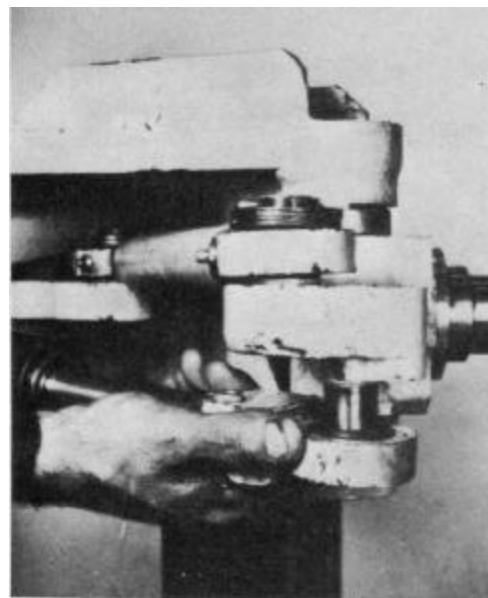

Figure 5-80
4. Remove the cotter pin and flat washer from the bottom spindle cylinder mounting pin (Fig. 5-80).
5. Remove the power steer cylinder rod end from the spindle mounting pin (Fig. 5-80).